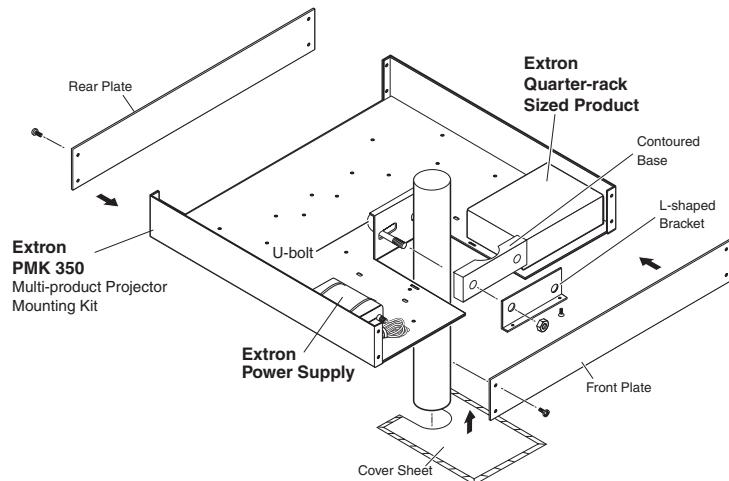

Figure 10 — PMK 350 projector mounting a SEQ
Mount the SEQ to a PMK 350 bracket (figure 10) as follows:
1. Remove the front and back plates from the PMK 350 (figure 10), using an Extron Tweaker or a #2 Philips screwdriver. Retain the screws to reattach the plates when you are finished.
5. Place the PMK 350 around the projector ceiling mounting pole (figure 10).